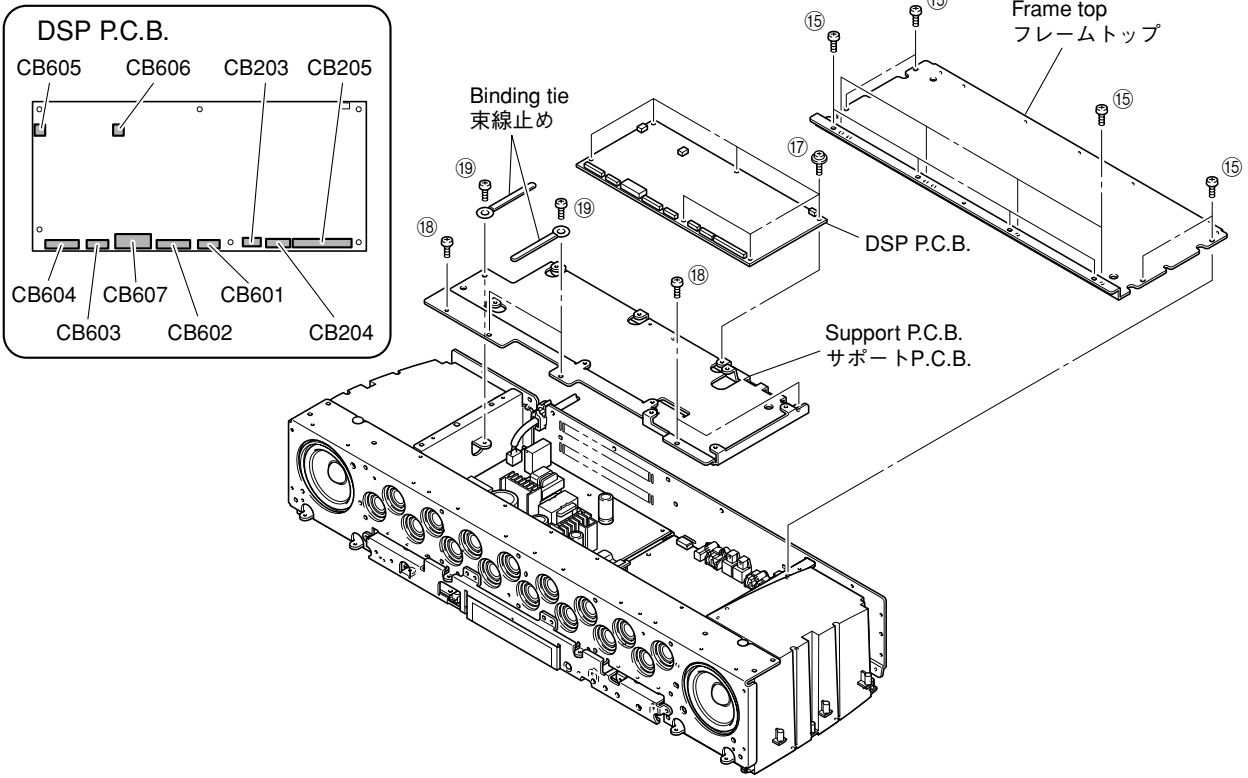

Fig. 4
- a. Remove 12 screws (15). (Fig. 4)
- c. Remove the frame top. (Fig. 4)
- d. Remove 6 screws (17). (Fig. 4)
- e. Remove CB203-205 and CB601-607. (Fig. 4)
- f. Remove the DSP P.C.B.. (Fig. 4)
- a. ⑮のネジ12本を外します。(Fig. 4)
- c. フレームトップを取り外します。(Fig. 4)
- d. ⑰のネジ6本を外します。(Fig. 4)
- e. CB203-205、CB601-607を外します。(Fig. 4)
- f. DSP P.C.B.を取り外します。(Fig. 4)
6. Removal of INPUT (1) and (2) P.C.B.s
* When replacing INPUT (1) and INPUT (2) P.C.B.s, be sure to replace them at the same time. Installing either P.C.B. of different version from the other may cause failure of operation.
- a. Remove 3 screws (18). (Fig. 4)
- b. Remove 3 screws (19) and then remove the binding tie. (Fig. 4)
- d. Remove the support P.C.B.. (Fig. 4)
- a. ⑱のネジ3本を外します。(Fig. 4)
- b. ⑲のネジ3本を外し、束線止めを外します。(Fig. 4)
- d. サポートP.C.B.を取り外します。(Fig. 4)